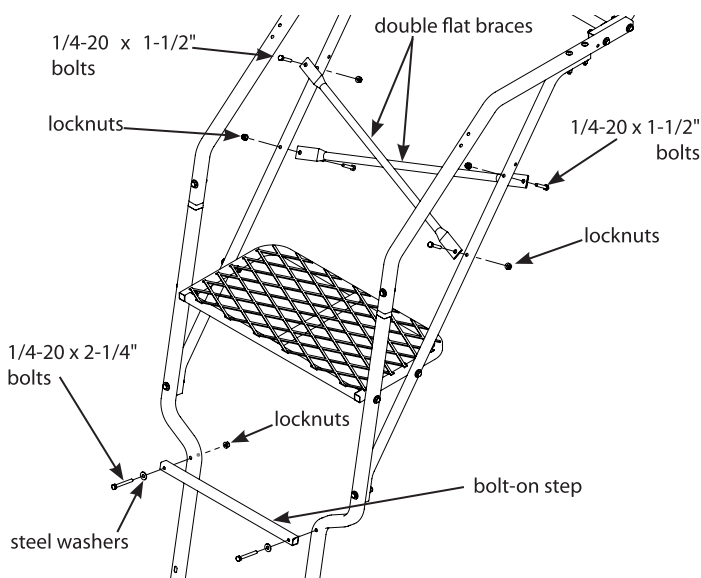

Figure 4
5. Attach the round tube, double flat braces (10377) to the upper ladder support tubes using (4) provided 1/4-20 x 1-1/2" bolts and locknuts. **SEE FIGURE 4.** One double flat brace should be positioned on each side of the upper ladder support tubes for clearance purposes.
6. Attach the bolt-on step (410034) to the front side of flared rails using (2) provided 1/4-20 x 2-1/4" bolts, locknuts and steel washers. **SEE FIGURE 4.**